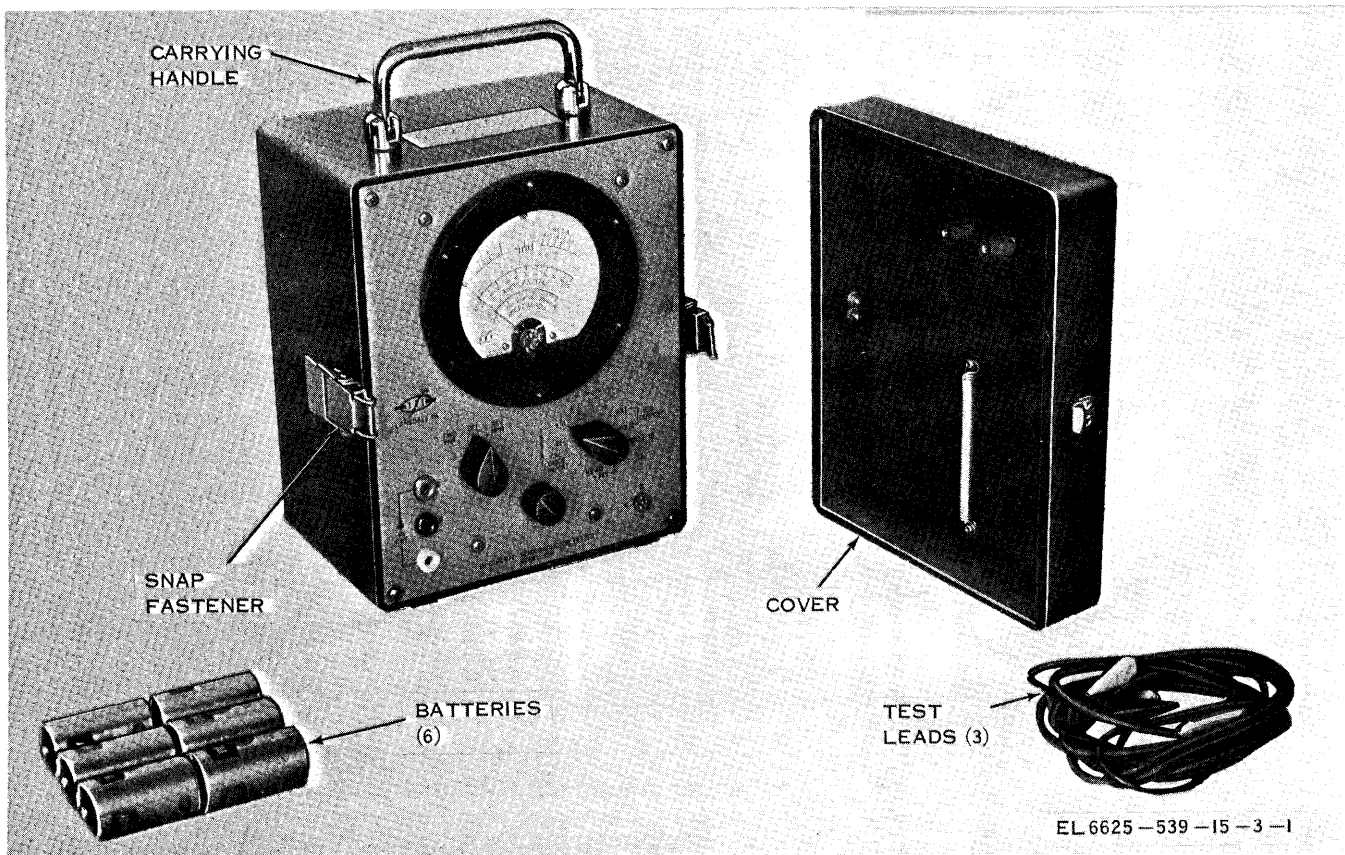

Figure 1-1. Test Set, Transistor TS-1836C/U.
a. This manual describes Test Set, Transistor TS-1836C/U (fig. 1-1) and provides instructions for operation, organizational maintenance, and general support (GS) maintenance. Instructions are provided for the operator and the organizational repairman for installation, operation, preventive maintenance, and replacement of parts available at organizational maintenance. Circuit functioning is included for general support maintenance, together with instructions appropriate to these categories of maintenance for troubleshooting, testing, adjusting, aligning and repairing the equipment, and replacing maintenance parts.